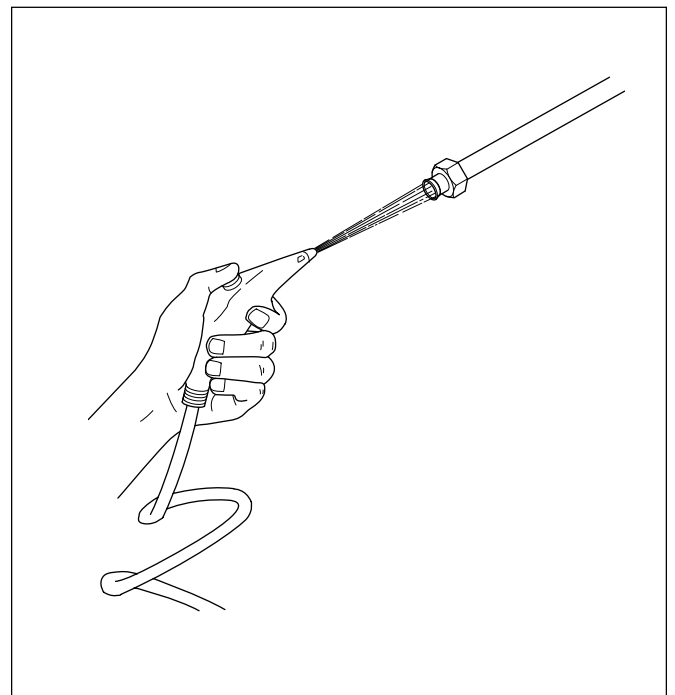

Figure 18
2. After loosening the contaminants by brushing from both ends of the tubing, blow out the loose debris with a compressed air gun using clean, *filtered* air (see Figure 18).